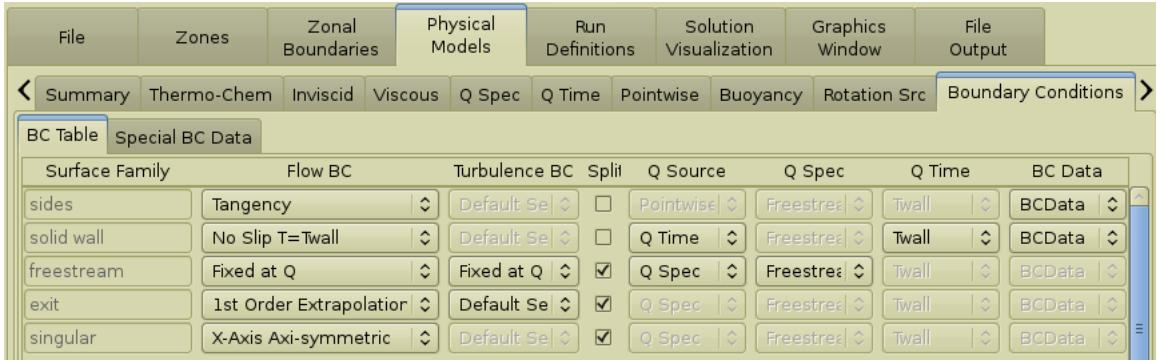

Figure 10.7: A sample boundary condition set up using **Q Spec** for the **Fixed at Q** BC and **Q Time** for the **No Slip T=Twall** condition.
The **BC Table** tab presents information in table format (see Fig. 10.7 on pg. 160), where each row corresponds to a surface family. A surface family is placed in the table by selecting the surface folder in the tree view (these are folders under “Surfaces”) and selecting the **Edit→Toggle Folder BC On/Off** menu option (the edit menu is accessed using the right mouse button). There are special zonal boundary (ZB) folders that have this same property. In cases where a zonal boundary folder has the BC setting toggled on, the ZB surfaces are overridden by the boundary condition.
For example, in Fig. 10.7 on pg. 160, there are a total of five surface families in the table with boundary condition assignments. Of the boundary conditions used here, only the **No Slip T=Twall** and **Fixed at Q** selections require flow conditions to properly set the boundary values. This is clearly seen from the Q Source option menus. With the way things are set up in the figure, the **Fixed at Q** boundary condition will use the “Freestream” **Q Spec** to set the boundary values, while the **No Slip T=Twall** boundary condition will use the time varying “*Twall*” **Q Time** flow conditions.